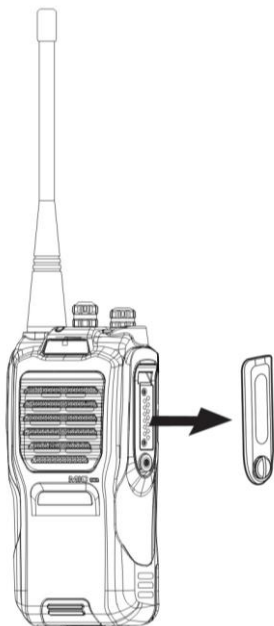

Figure 11
3. Rotate the screw clockwise to fasten. (See Figure 11 below)